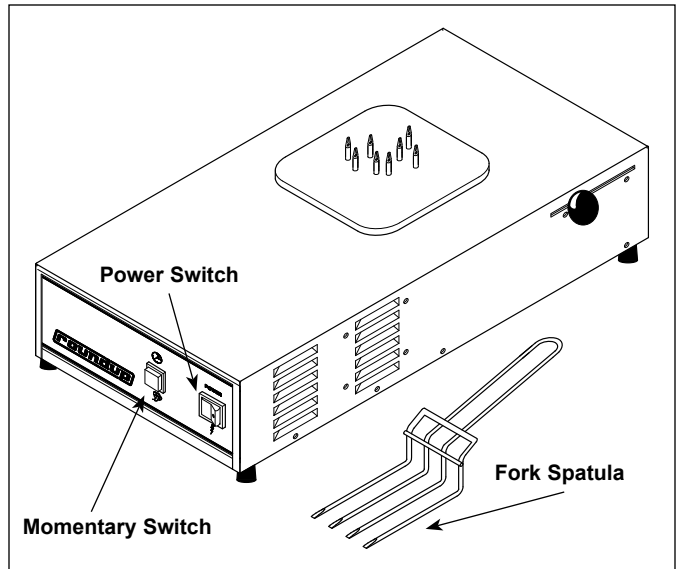

Figure 2. Operating Unit
2. Press the MOMENTARY Switch (Figure 2) on the front panel to clear the water line of any air.